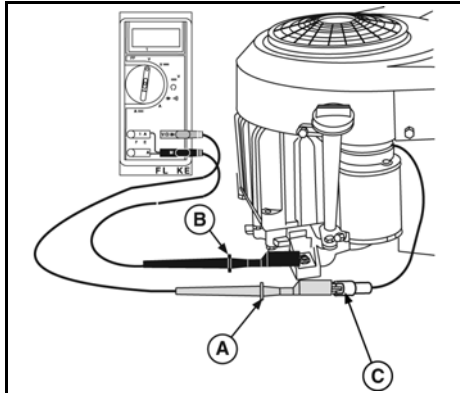

Figure 23
1. Insert RED test lead (A, Figure 23) into the V  $\Omega$  receptacle in the meter.
2. Insert BLACK test lead (B) into COM receptacle in the meter.
4. Attach RED test lead clip to AC output terminal (C).